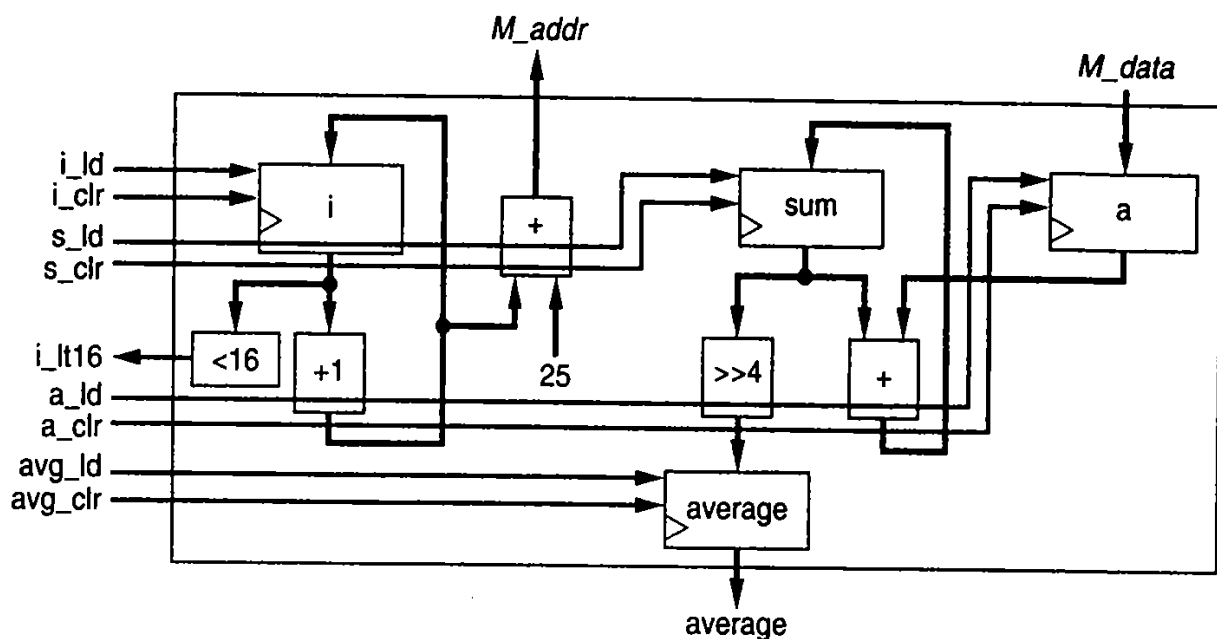

Figure 5.100 Datapath capable of computing the average of 16 elements of an array.
- 5.16 Create an FSM that interfaces with the datapath in Figure 5.100. The FSM should use the datapath to compute the average value of the 16 32-bit elements of any array *A*. Array *A* is stored in a memory, with the first element at address 25, the second at address 26, and so on. Assume that putting a new value onto the address lines *M_addr* causes the memory to almost immediately output the read data on the *M_data* lines. Ignore overflow issues.